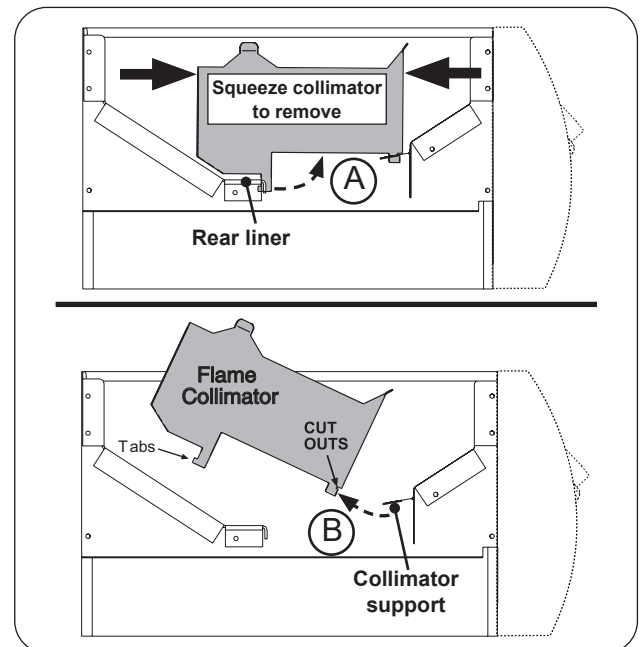

Fig. 40-2 Flame collimator removal
2. Squeeze the collimator to detach the rear tab from the rear liner as shown in Fig. 40-2, A, and lift up the rear portion of the collimator.
3. Detach the collimator from the front collimator support and completely remove the collimator as shown in Fig. 40-2, B.